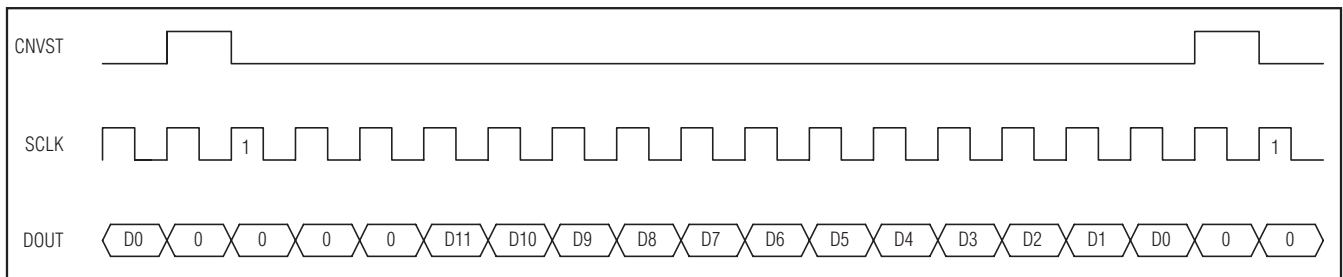
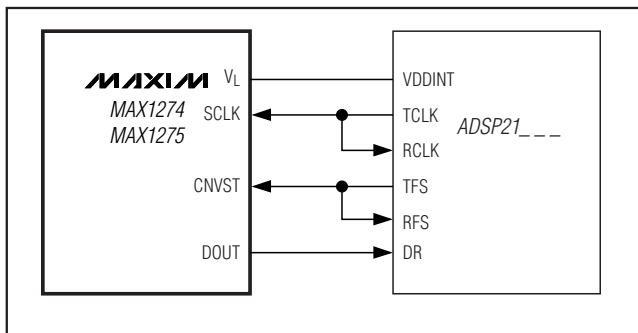

Figure 17. DSP Interface—Continuous Conversion
Figure 19. Interfacing to the ADSP21\_ \_ \_
The MAX1274/MAX1275 can also be connected to the TMS320C54\_ by using the data transmit (DX) pin to drive CNVST and the CLKX generated internally to drive SCLK. A pullup resistor is required on the CNVST signal to keep it high when DX goes high impedance and 0001hex should be written to the DXR continuously for continuous conversions. The power-down modes may be entered by writing 00FFhex to the DXR (see Figures 17 and 18).
The MAX1274/MAX1275 can be directly connected to the ADSP21\_ \_ \_ family of DSPs from Analog Devices, Inc. Figure 19 shows the direct connection of the MAX1274/MAX1275 to the ADSP21\_ \_ \_ . There are two modes of operation that can be programmed to interface with the MAX1274/MAX1275. For continuous conversions, idle CNVST low and pulse it high for one clock cycle during the LSB of the previous transmitted word. The ADSP21\_ \_ \_ STCTL and SRCTL registers should be configured for early framing (LAFR = 0) and for an active-high frame (LTFS = 0, LRFS = 0) signal. In this mode, the data-independent frame-sync bit (DITFS = 1) can be selected to eliminate the need for writing to the transmit-data register more than once. For single conversions, idle CNVST high and pulse it low for the entire conversion. The ADSP21\_ \_ \_ STCTL and SRCTL registers should be configured for late framing (LAFR = 1) and for an active-low frame (LTFS = 1, LRFS = 1) signal. This is also the best way to enter the power-down modes by setting the word length to 8 bits (SLEN = 1001). Connect the  $V_L$  pin to the ADSP21\_ \_ \_ supply voltage when the MAX1274/MAX1275 are operating with a supply voltage higher than the DSP supply voltage (see Figures 17 and 18).